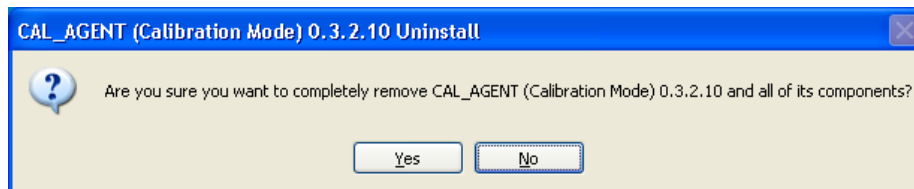

Figure 2-40: CAL_AGENT Uninstall Window
1. In the *CAL_AGENT Uninstall* window shown in Figure 2-40, click **Yes**.